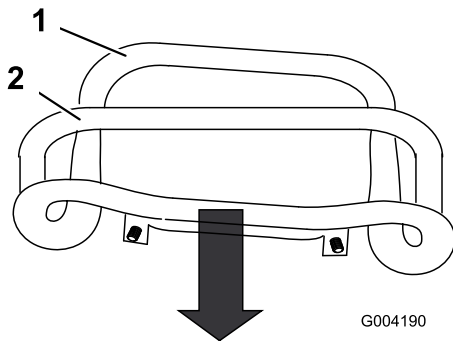

Figure 57
3. Pull straight back on the traction control so the front of the control contacts the reference bar (Figure 57).